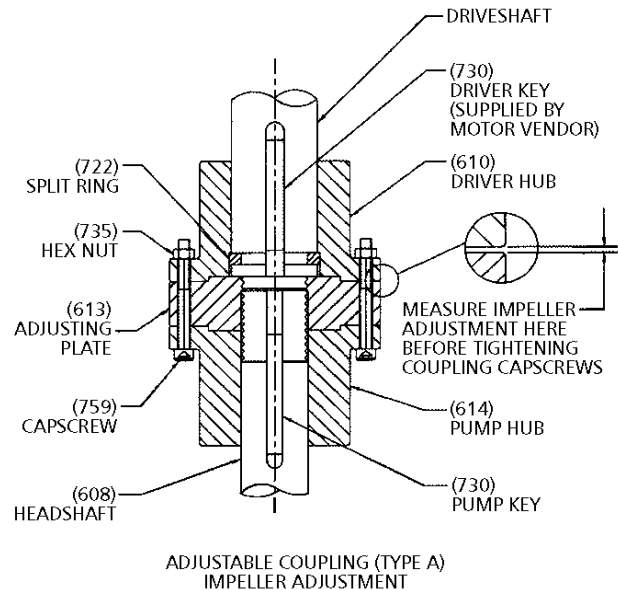

Figure 16
Impeller adjustment is identical for all motors and right angle gear drives. Adjustment is accomplished by turning the adjusting plate (613). (See Figure 16 or 17). The correct adjustment is listed on the Outline Drawing for the specific unit. If the pump has a thrust pot, do not adjust the impeller position until the thrust pot has been installed and adjust the impeller position by using the adjust nut on the thrust pot.
For enclosed impellers obtain the clearance between the adjusting plate and driver hub or spacer as specified on the outline drawing. See Figure 16 or 17.